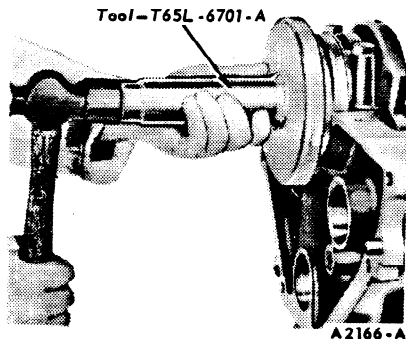

FIG. 53 Installing Crankshaft Rear Oil Seal
1. **Clean, inspect and polish the rear oil seal rubbing surface on the crankshaft.** Coat a new oil seal and the crankshaft with a light film of engine oil. Start the seal in the recess and install it with the tool as shown in Figure 53. Keep the tool straight with the centerline of the crankshaft and install the seal until the tool contacts the block surface. **Remove the tool and inspect the seal to be sure it was not damaged during installation.**